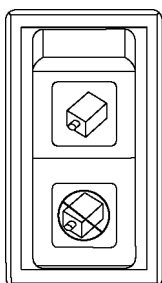

FIGURE 33-8. CAMERA SWITCH
2. Press the camera switch (Figure 33-8) to the bottom position. Verify dash that the switch is lighted green on the bottom.